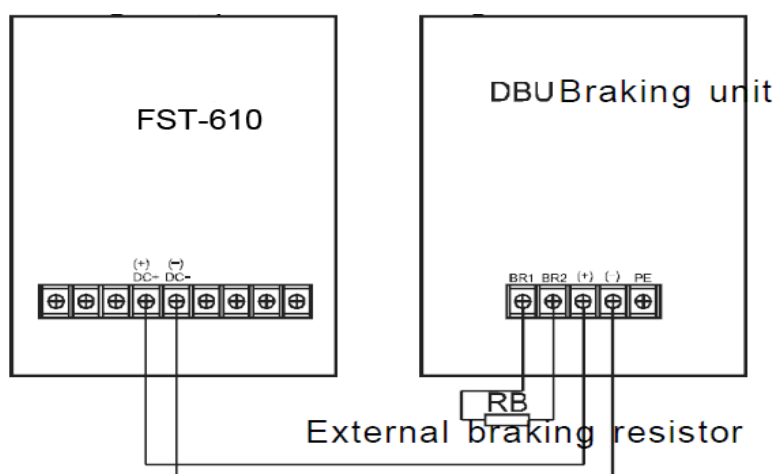

Figure B-2 Connection of braking unit
B.2.2.2 Connection of Braking unit, please refer to figure B-2.